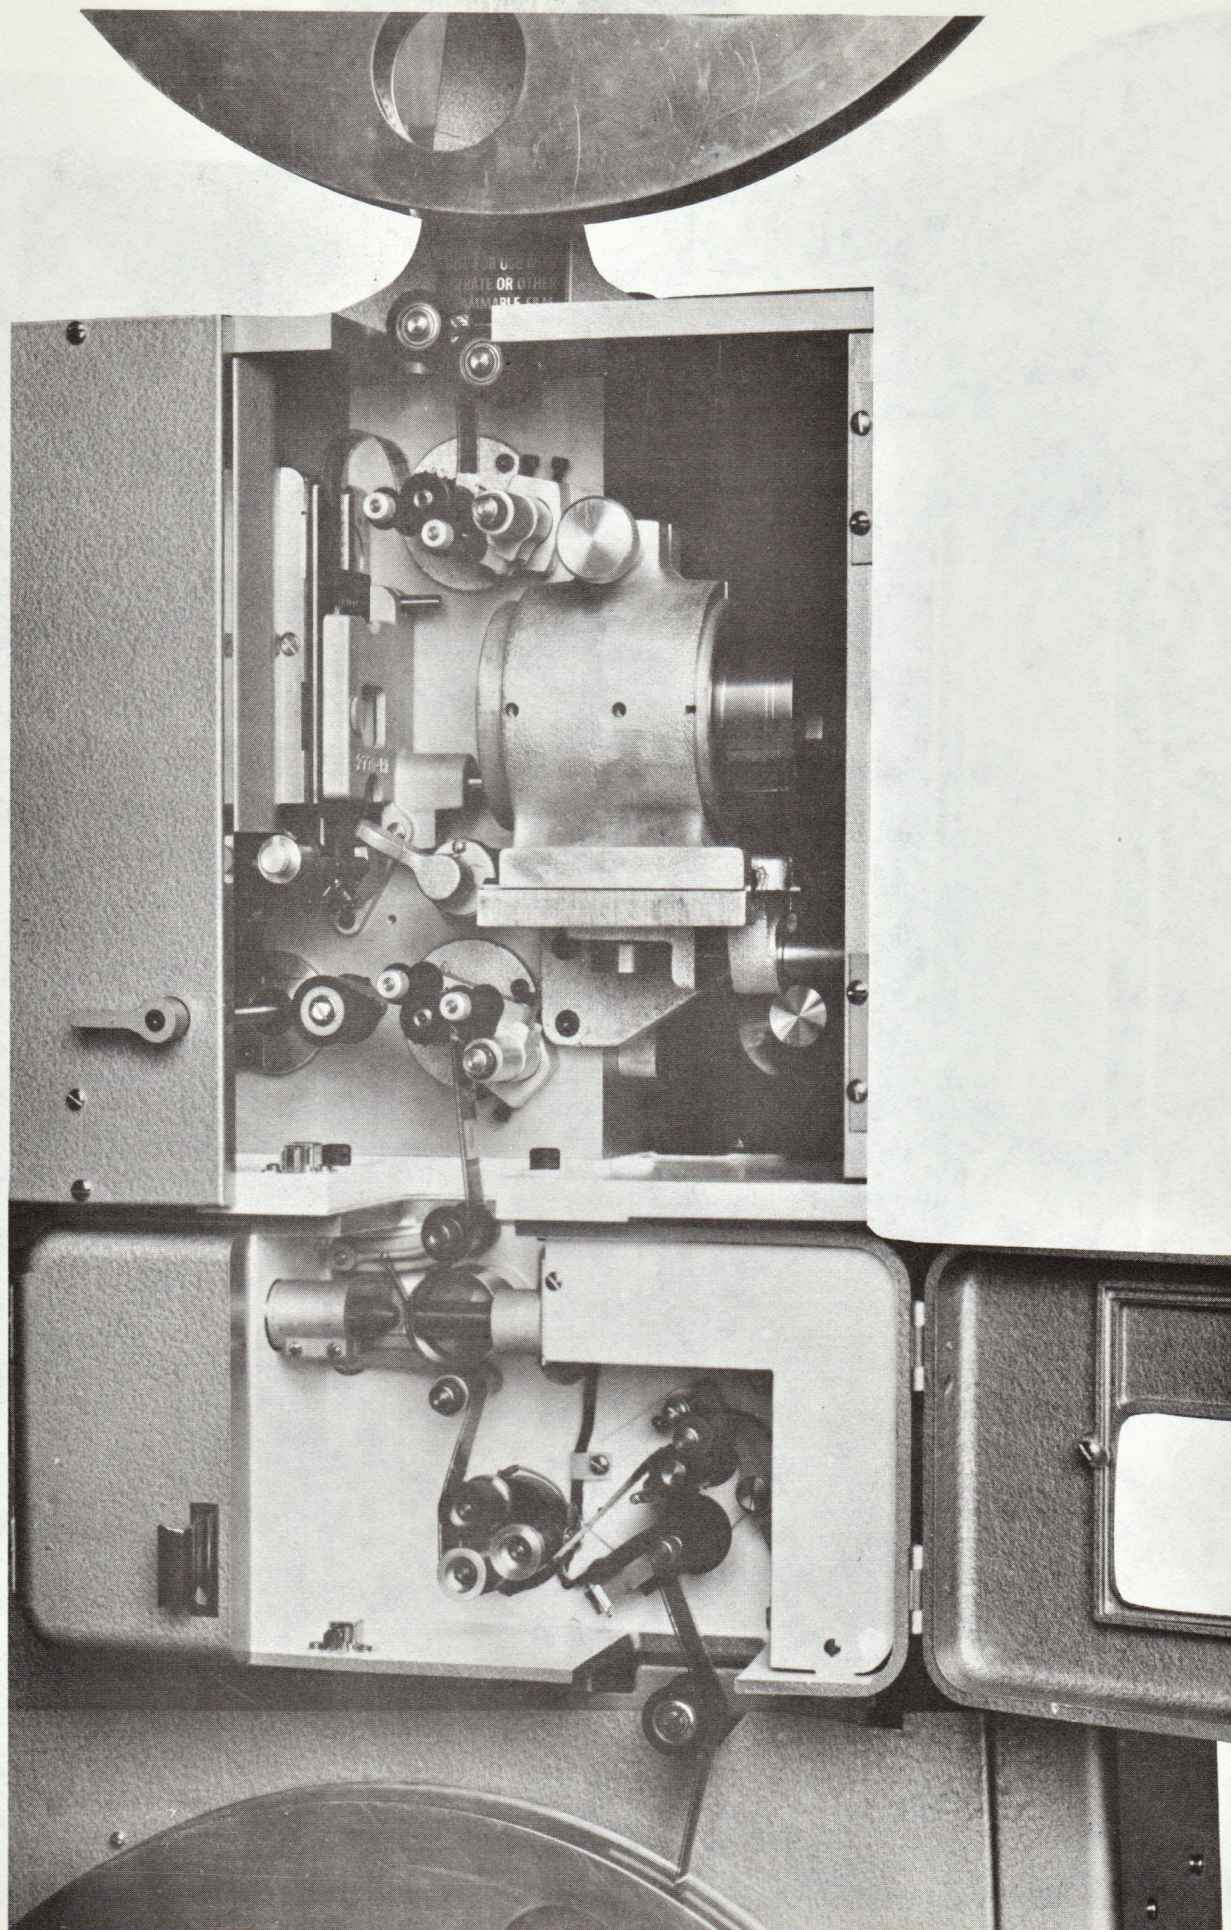
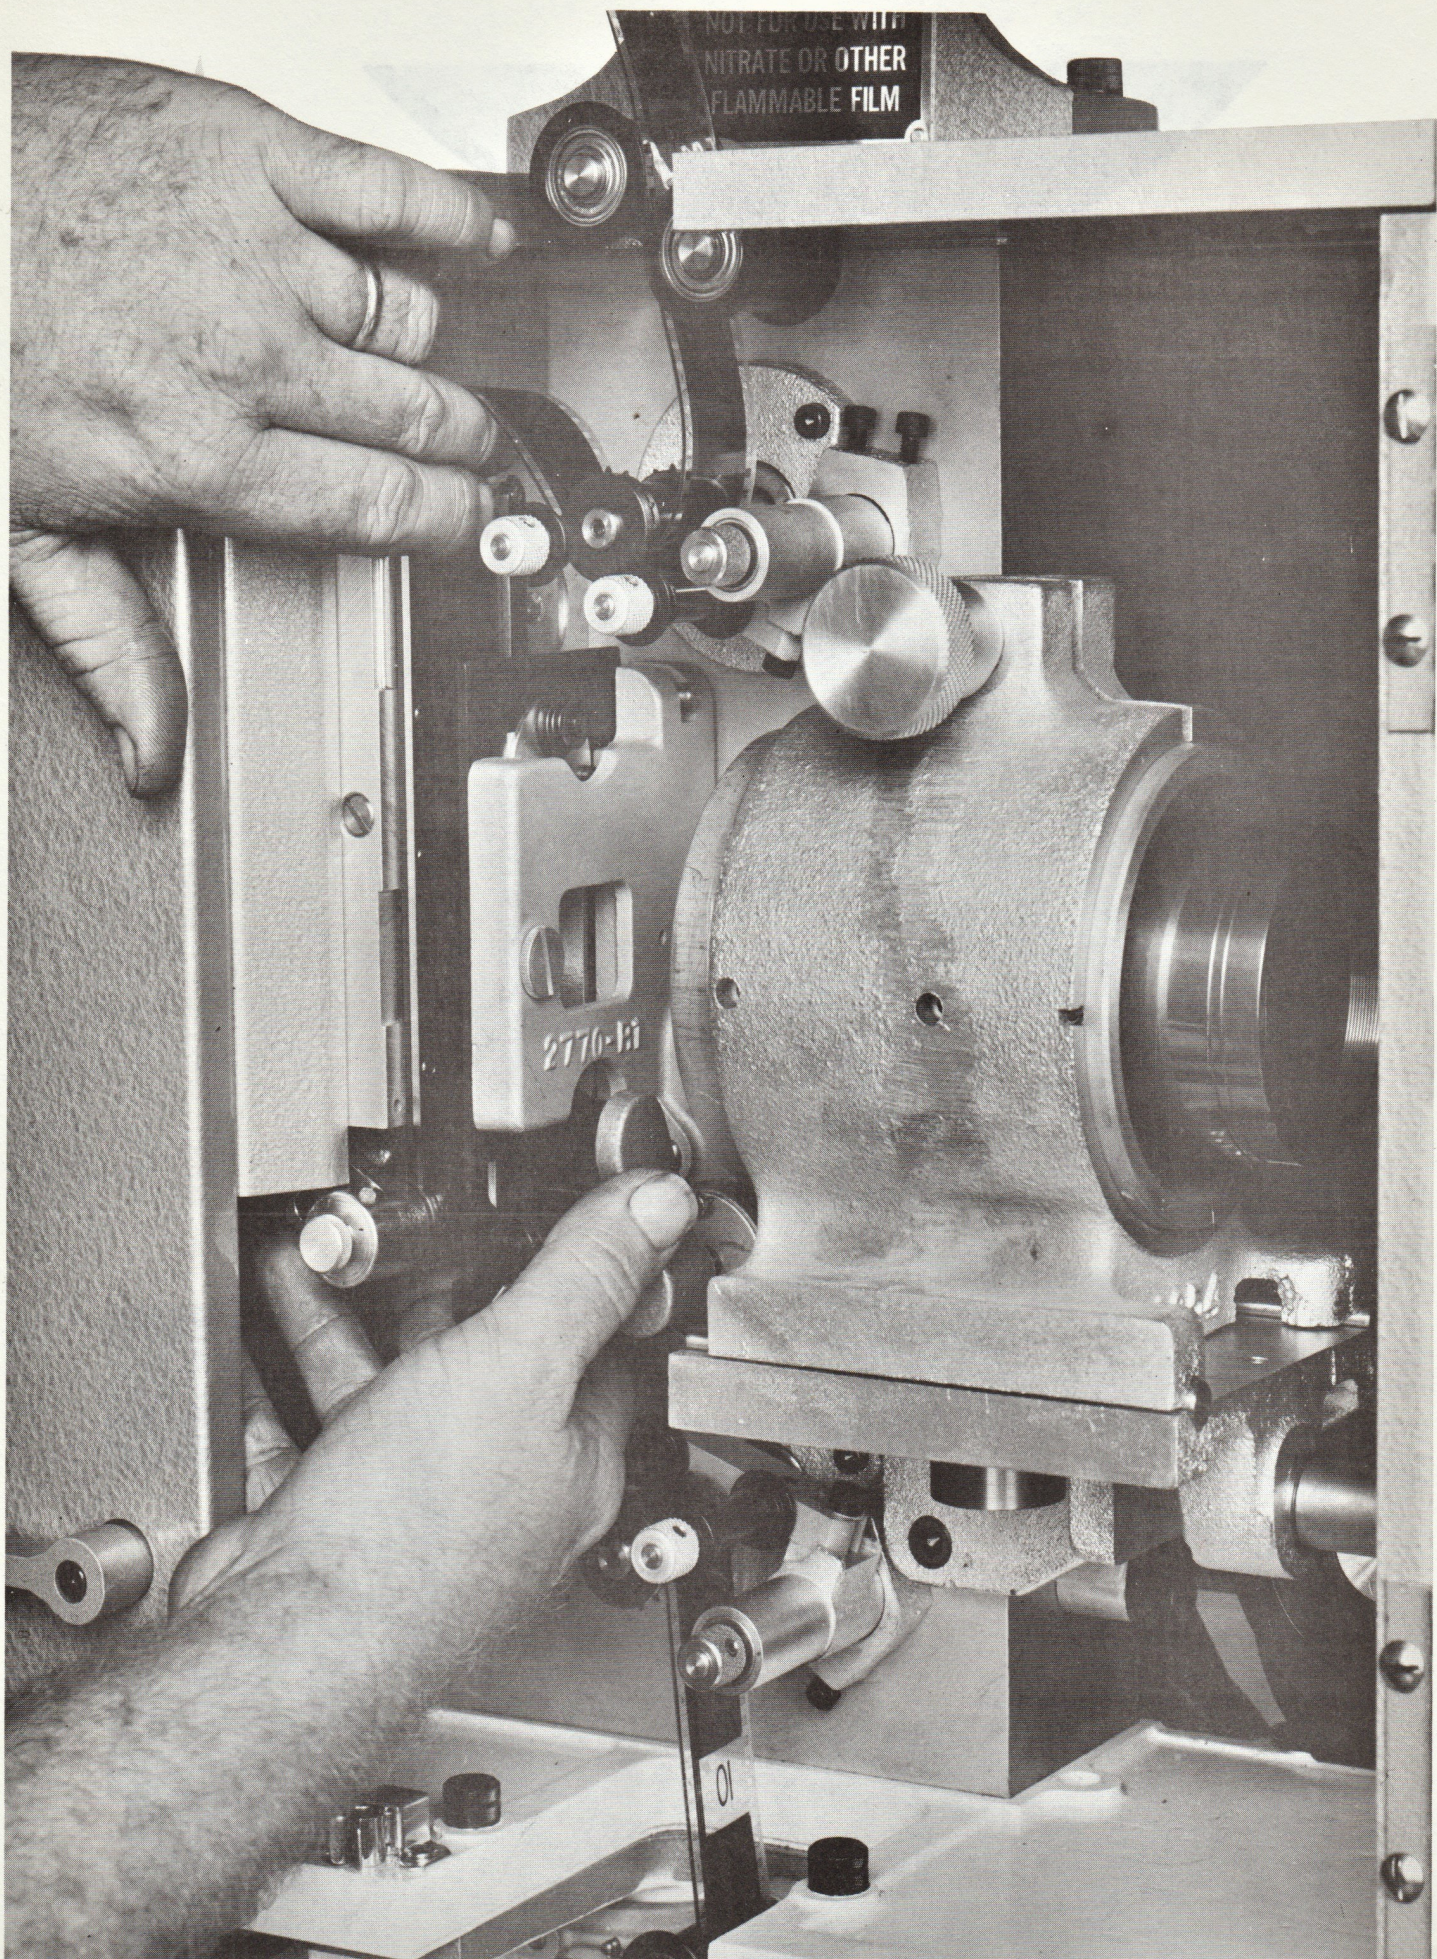

FIG. 6
FIG. 7
9. Thread Projector as shown in Figs. 6 and 7.
NOTE: While gate is completely opened and closed with the opening lever, gate is very easily closed with ease by pressure from the thumb as shown in Fig. 7. Framing should be done from the top framing hole and when intermittent is in the stop position and with framing handle horizontal as shown in Fig. 6.